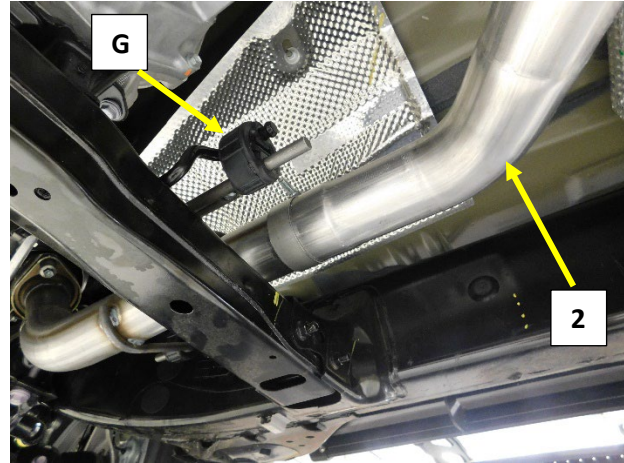

Figure.4
3. Install a 3" band clamp (12) into the inlet (expanded section) of the Muffer inlet pipe (2). Position the clamp with the bolt at the top of the expanded section and the nut facing the transmission. **Fig.4/5**
4. Install the muffer inlet pipe (2) on to the down pipe (1), align the hanger rods with the frame hangers and install the rubber isolators. **Fig.4/5/6**